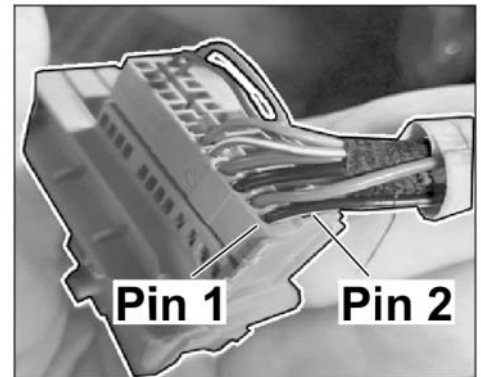

Figure 21
- 2.19 Plug wiring harness into connector for door on vehicle side. Release connector. **Green connector Pin1 ⇒ Figure 21 -Pin 1-: Cable color violet/black. Green connector Pin2 ⇒ Figure 21 -Pin 2-: White/violet cable.**